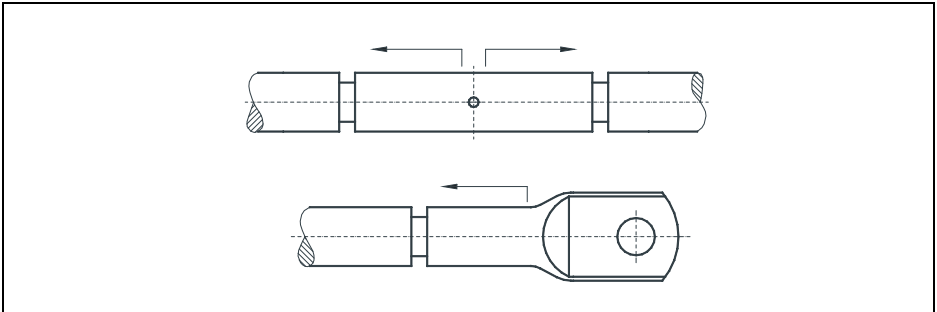

Figure 3 Working direction for crimpings
- 5 Whenever several crimpings are necessary start crimping from the flange to the end of the sleeve (see Figure 3).